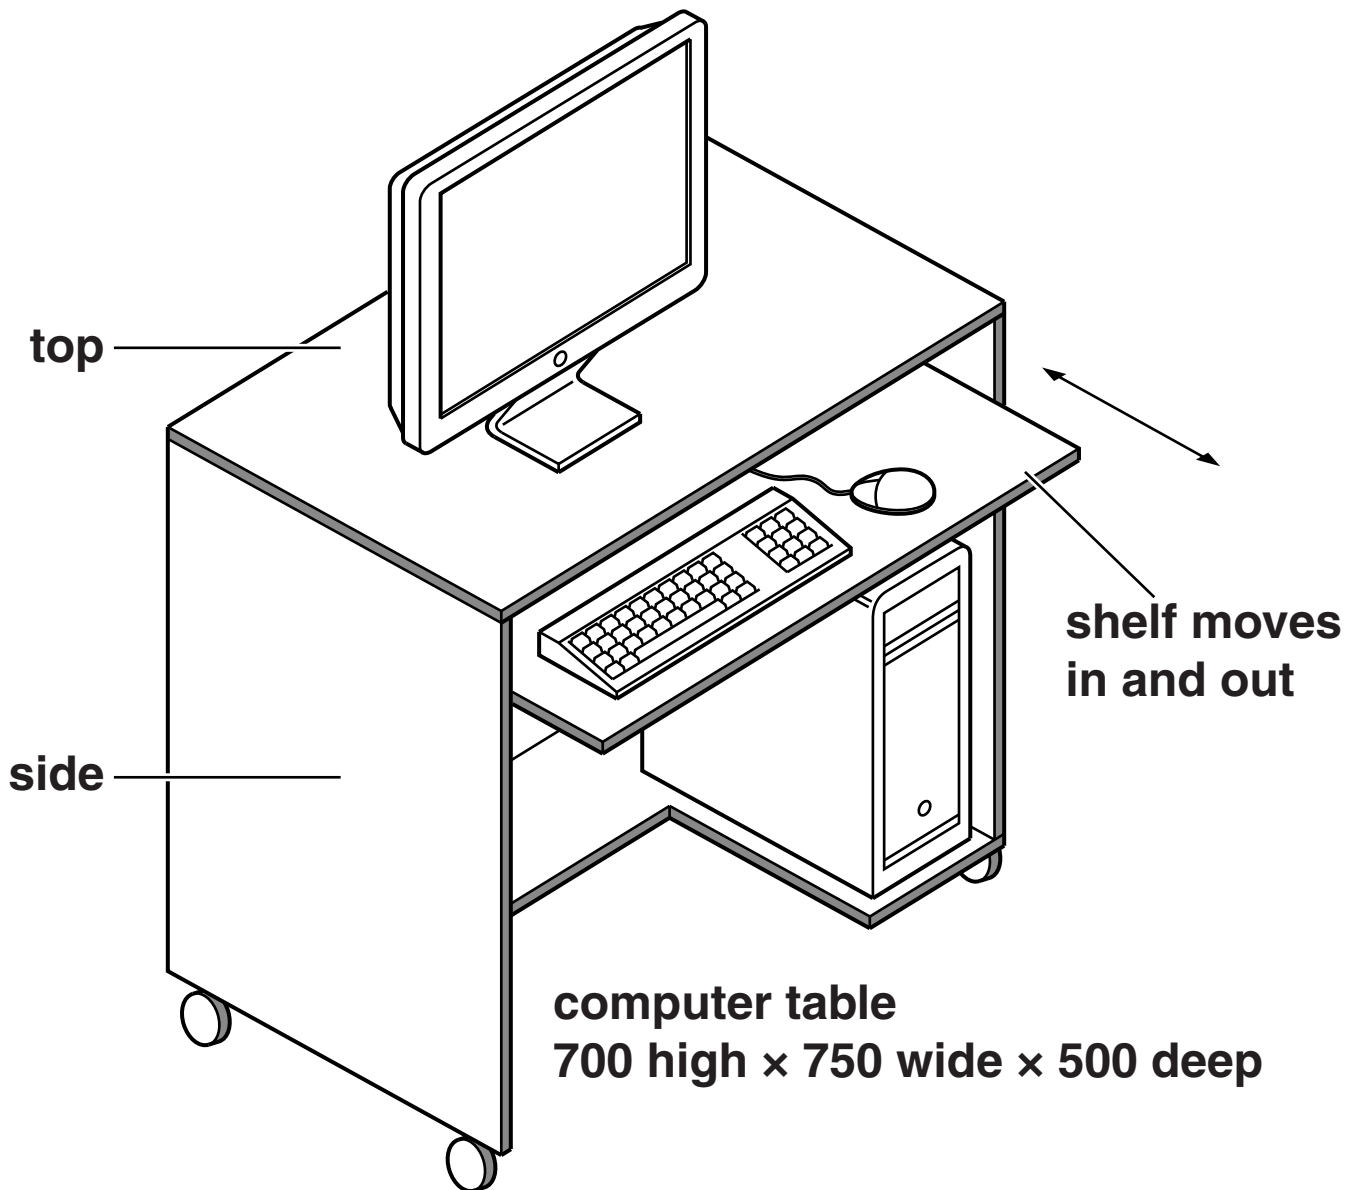

Fig. 4
- 3 Fig. 4 shows a computer table made from 25 mm thick manufactured board. The computer table is supplied as flat-pack for self-assembly.**
(b) Use sketches and notes to show how the shelf, used to support the keyboard, could be made to slide in and out as shown in Fig. 4.